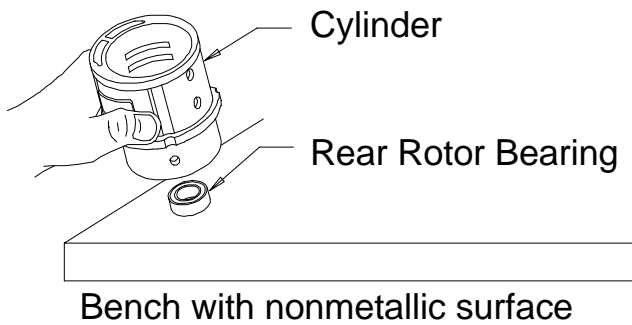

Figure 5
- To remove the Rear Rotor Bearing, hold the Cylinder with the Rear Rotor Bearing down and tap the Cylinder on a flat, non-metallic surface such as a work bench. This will loosen the Rear Rotor Bearing so that it will drop out of the Cylinder. See Figure 5.
- Working from the rear of the Housing, push out the Motor Gasket (8).